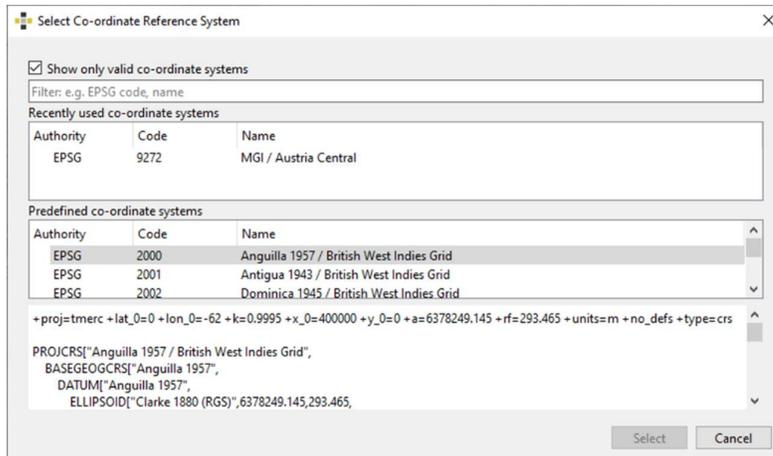

Figure 5: Select Co-ordinate Reference System
- *Referenced (specific co-ordinate system)* requires the selection of the specific co-ordinate system in the “*Select Co-ordinate Reference System*” dialog (Figure 5).